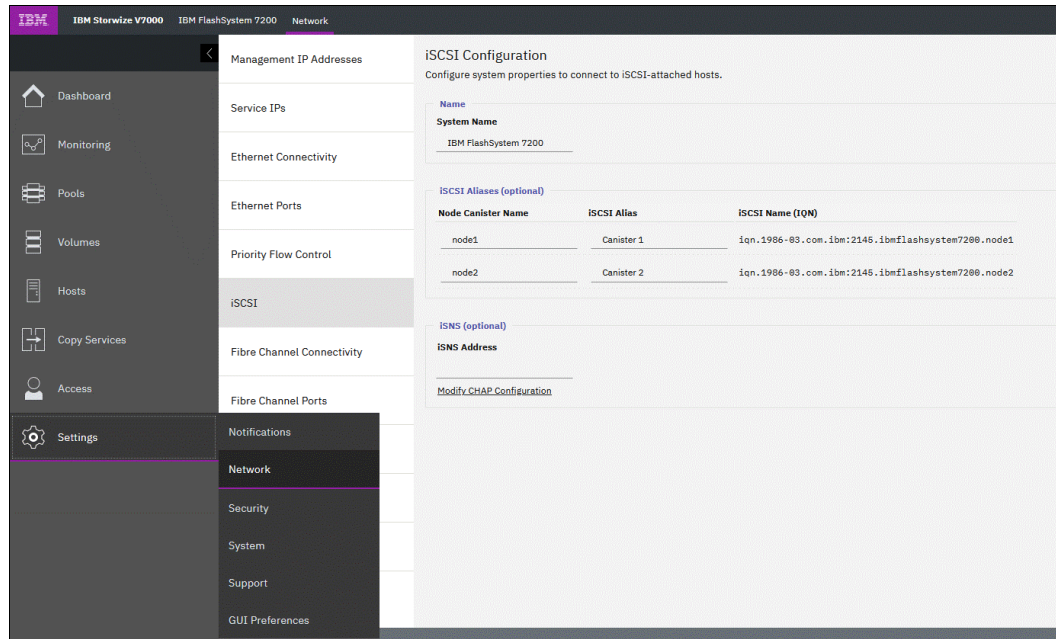

Figure 7-12 Network: iSCSI Configuration view
1. Select **Settings** → **Network**, and then click the **iSCSI** tab (see Figure 7-12).